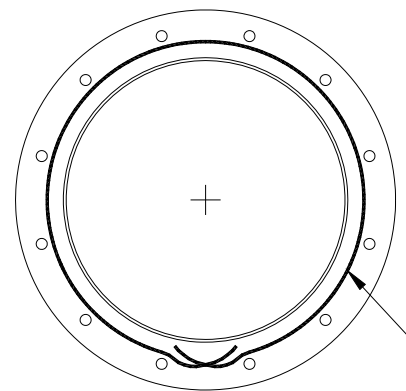

Figure 17 : Sealant tape on Vacuum Seat
5. Apply PTFE sealant tape around the inside hole pattern of the vacuum seat [18] (Figure 17). Tape should be at least 1/16" thick. Note: Other sealants (such as Silicone) can replace the Fluoropolymer tape if compatible with tank products.